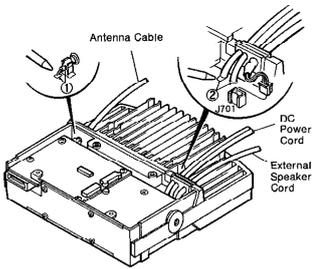

Figure 3-5
**CAUTION:** (1) Before removing the screws, disconnect the jack of the external speaker cord from connector J701.
(2) Next, remove the solder from parts ① and ② as shown in Figure 3-5 below, and then remove the antenna cable and power cable.